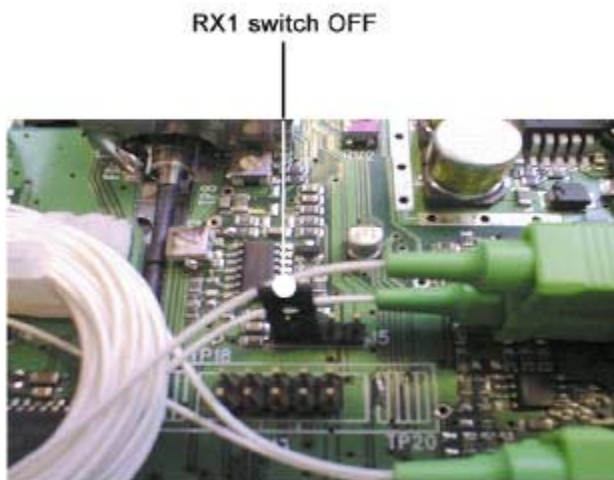

Figure 15. Locating the RX1 switch
2. Move the appropriate jumper to the OFF position by moving it onto the two left-hand pins of the jumper connector (see Figure 15).